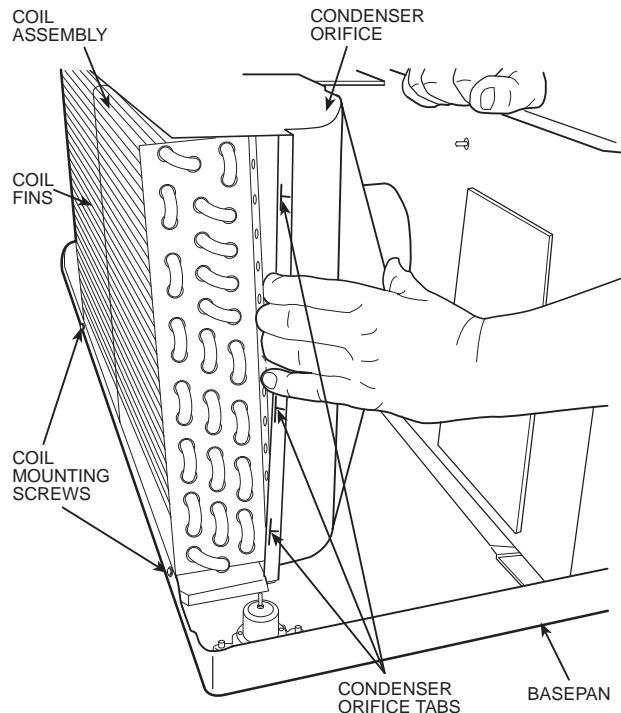

FIGURE 19 — REMOVING CONDENSER ORIFICE
- Using a flat head screw driver, gently pry the plastic condenser orifice tabs away from both condenser coil tube sheets and pull the condenser orifice away as shown in Figure 19.
7. Using a flat head screw driver, gently pry the plastic condenser orifice tabs away from both outdoor coil tube sheets and pull the condenser orifice away as shown in Figure 19. See GENERAL DISASSEMBLY section.